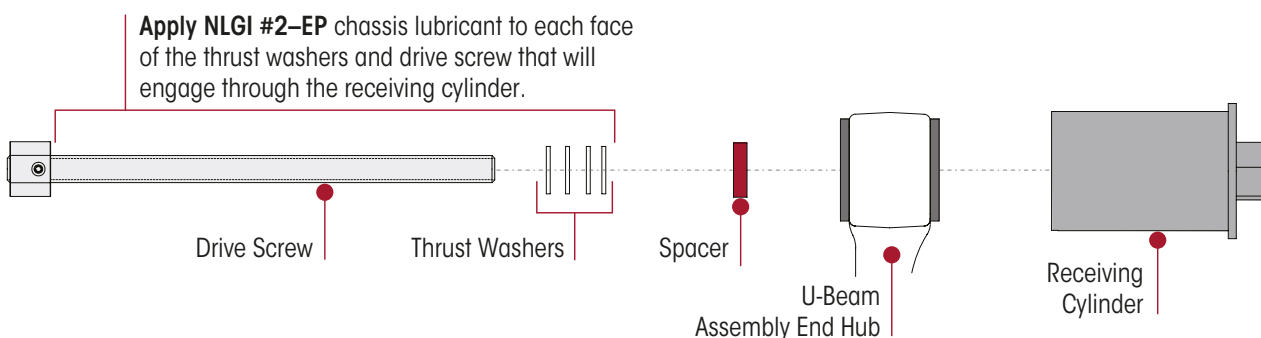

Figure 87: Assembly of Pivot Bush Tool Part
NOTE: Apply S-21337 extreme pressure lubricant (or NLGI #2-EP chassis grease) to each face of the thrust washers and to the drive screw that will engage through the receiving cylinder. Refer Figure 87.
4. Apply NLGI #2-EP (Extreme Pressure) chassis lubricant to each face of the thrust washers and to the drive screw that will engage through the receiving cylinder. Refer Figure 87.
5. Install the pivot bush tool as shown in Figure 87.